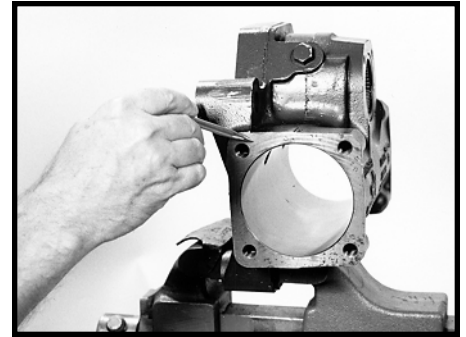

Figure 90
5. Inspect the housing (20) faces for nicks that would prevent proper sealing. Replace the gear housing if these nicks are present and cannot be easily removed with a fine-toothed flat file without changing the dimensional characteristics. SEE FIGURE 90.